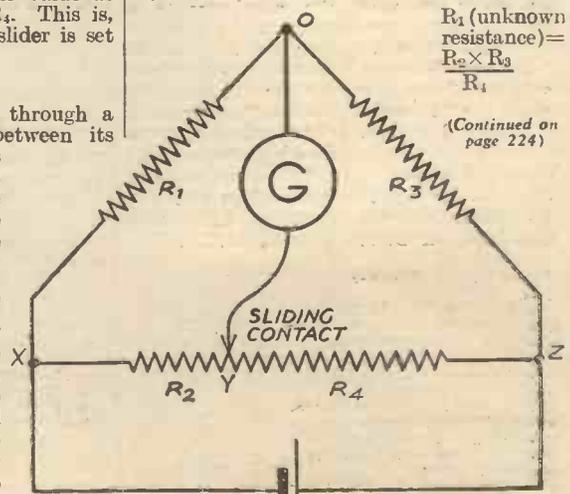

Fig. 1.—The theoretical circuit of the bridge.
**S**OME time ago, a short article by W. Newby was published in PRACTICAL WIRELESS, which described a simple piece of apparatus for measuring unknown resistances. It was stated that it was based on strictly scientific principles. Wouldn't most of you who do not understand these principles welcome a simple explanation of them? The accompanying diagram, Fig. 1, shows the theoretical circuit of the above-mentioned apparatus, which is known as Wheatstone's bridge. When the current is switched on, a position somewhere along the resistance XZ can be found, such that when the sliding contact is placed there, no current will flow through the galvanometer G. Why this is so I am going to try to explain in as simple a manner as possible.